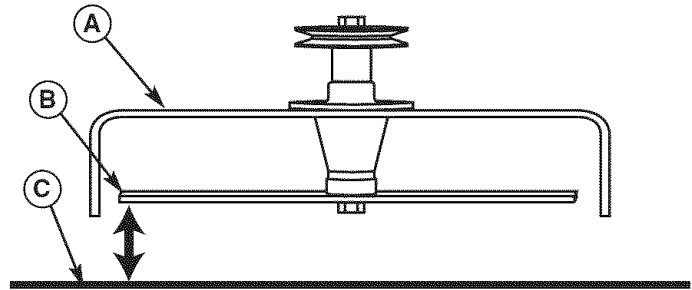
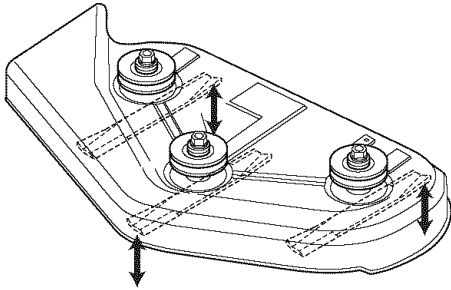

Figure 33. Measure Blade Tips to Ground
Figure 36. Orient Blades Front-to-Back
5. Measure the distance between the tips of the outside blades and the ground (Figures 33 & 34). If there is more than 1/8" (3mm) difference between the measurements on each side, proceed to step 6. If the difference is 1/8" (3mm) or less, proceed to Front To Back Leveling.
1. Turn the blades front-to-back as shown in Figure 36. Measure the distance from the ground to front tip of center blade, and from ground to rear tips of left hand and right hand blades (Figures 33 & 36). Front tips should be 1/8"-1/4" (3-6 mm) higher than rear tips. If not, proceed to step 2.